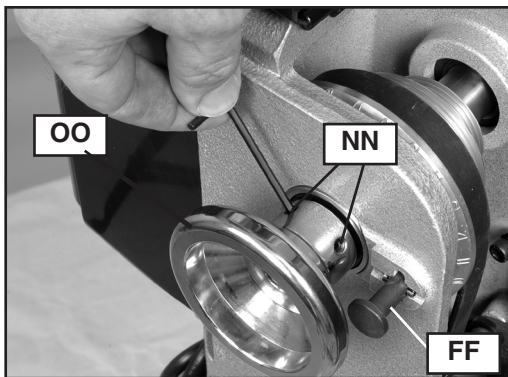
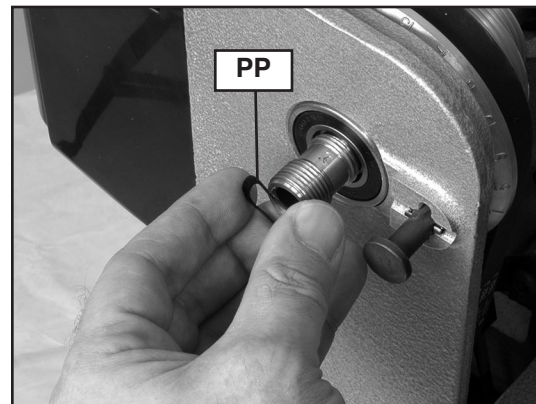

Fig. 31
Fig. 32
4. Loosen two set screws (NN) Fig. 31 on the spindle handwheel (OO) Fig. 31 at least 2-3 turns to avoid damage to the threads during removal.
5. Engage indexing pin (FF) Fig. 31 and remove spindle handwheel (OO). (**NOTE:** Threads are left-hand. Turn handwheel clockwise to loosen and remove.)
6. Remove wave spring (PP) Fig. 32.
14. Reinstall wave spring (PP) Fig. 32 and handwheel (OO) Fig. 31. Handwheel tightens counterclockwise. Tighten handwheel completely, then back off 1/4 turn. **NOTICE: DO NOT OVER TIGHTEN.** Doing so could damage the bearings.
15. Tighten two handwheel set screws (NN) Fig. 31 securely. With belt hanging loose, rotate spindle to ensure it turns freely.
19. Disengage indexing pin (FF) Fig. 31 if it was engaged to remove spindle handwheel (OO).